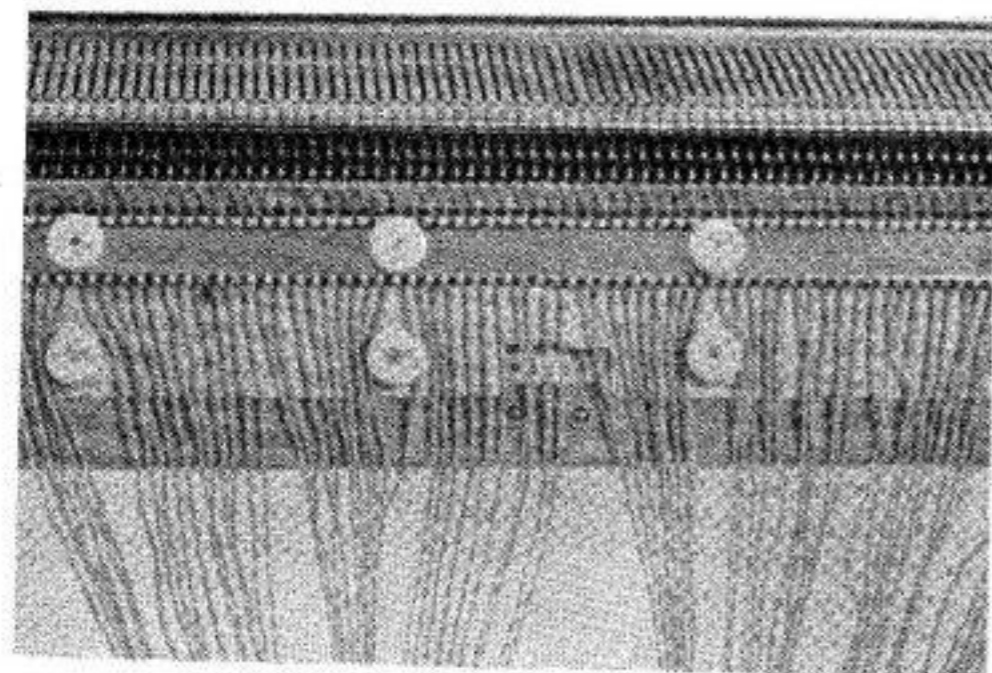

Fig. 14
(7) Replace V. P. K. unit Covers and secure with the nuts. (See Fig. 14.)